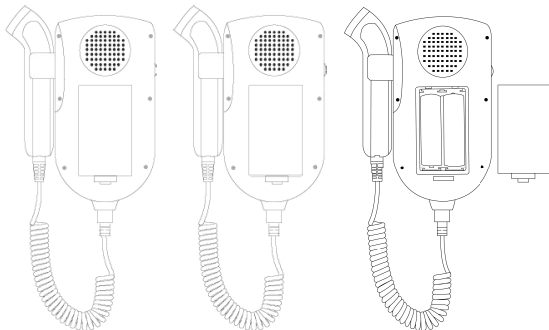

Fig. 4-2 Replacing Battery
1. The rear panel is upturned. First open the battery compartment, then take out the battery from the battery compartment (see Fig.4-2).